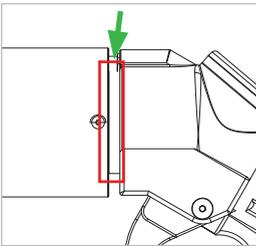

Figure 18
- ▶ Carefully pull off the impact protection sleeve (Pos. 1) forwards. Spray once onto the marked area (*Figure 18*).